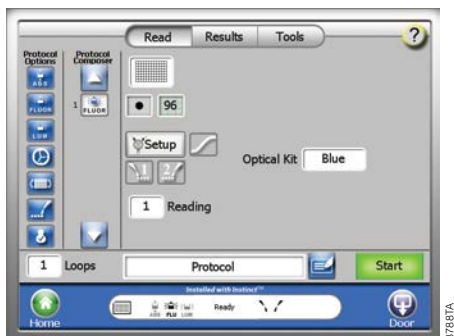

Figure 8. Setting “Fluorescence Options” screen.
2. With the “Protocol Option” icon chosen, define the plate layout and optical kit. In Figure 8, the Fluorescence icon is selected. Change parameters such as optical kit or plate layout by selecting buttons on the right.